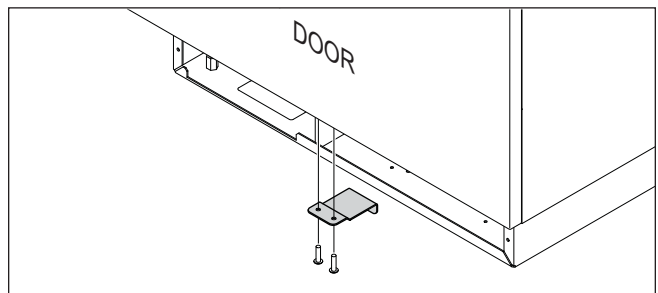

Figure 2. Switch Depressor Removal
2. Remove switch depressor from bottom of door by extracting its two mounting screws, then pull switch depressor from door (See Figure 2).